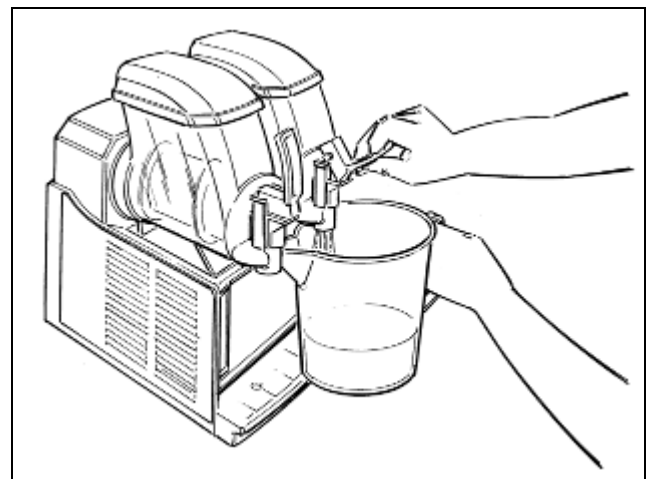

Fig. 3
- **E**mpy the bowl and repeat the same operations until the coming out water is clear (fig.3).